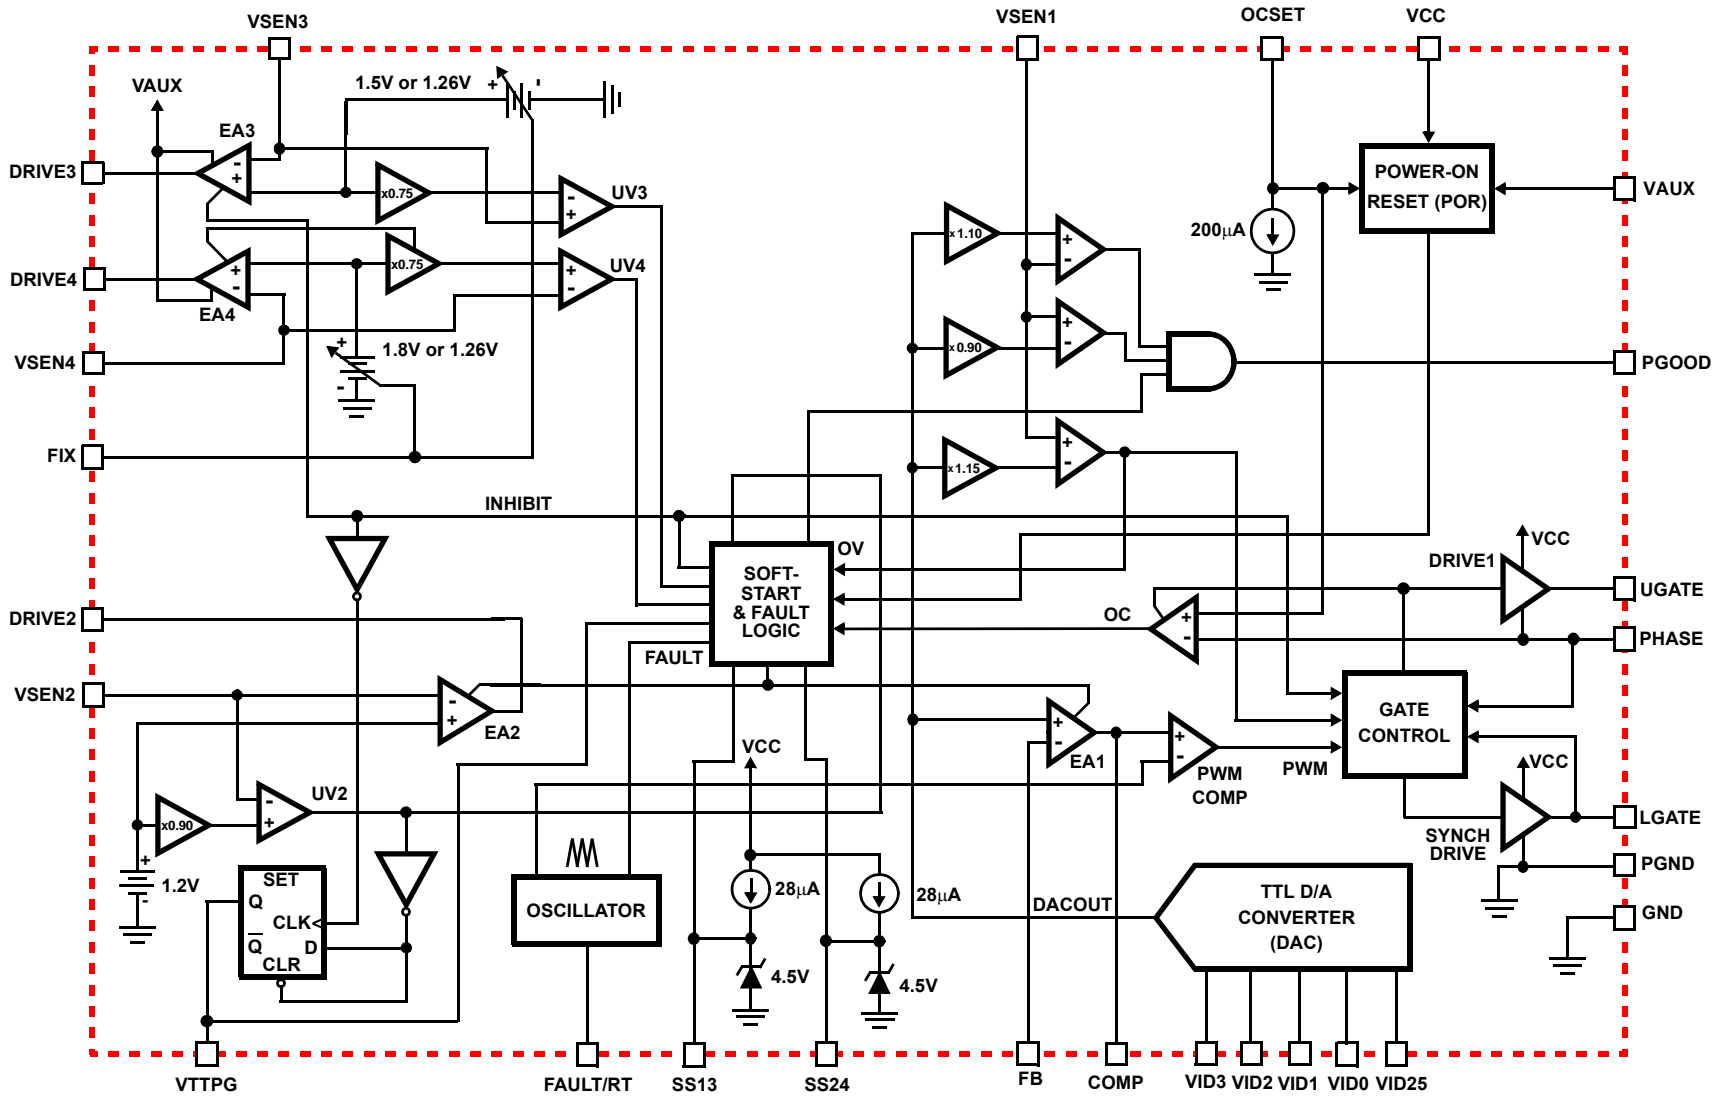

FIGURE 1. BLOCK DIAGRAM
## Electrical Specifications Recommended Operating Conditions, Unless Otherwise Noted. Refer to Figures 1, 2 and 3
**Electrical Specifications** Recommended Operating Conditions, Unless Otherwise Noted. Refer to Figures 1, 2 and 3 (Continued)